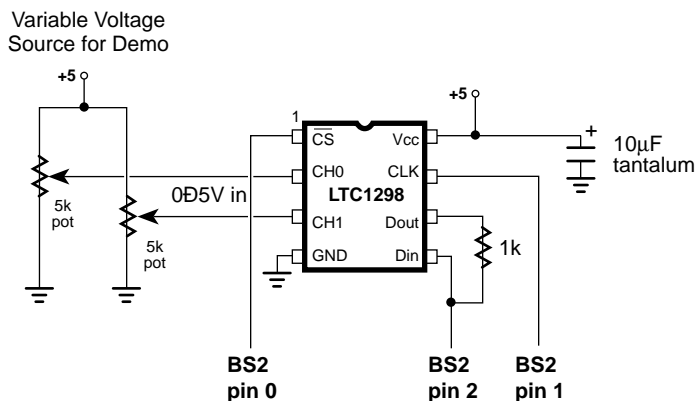

Figure 6. Schematic for LTC1298.BS2.
**Serial ADC with Shiftout and Shiftin.** The third example (figure 6, listing 3) uses Shiftout and Shiftin to hold a two-way conversation with an LTC1298 ADC. An initial Shiftout sends configuration bits to the LTC1298 to select channel and mode, then a Shiftin gets the 12-bit result of the conversion. The program listing concentrates on the mechanics of the Shift instructions; for more detailed information on the ADC itself, see Stamp Application Note #22 or the manufacturer's spec sheet.